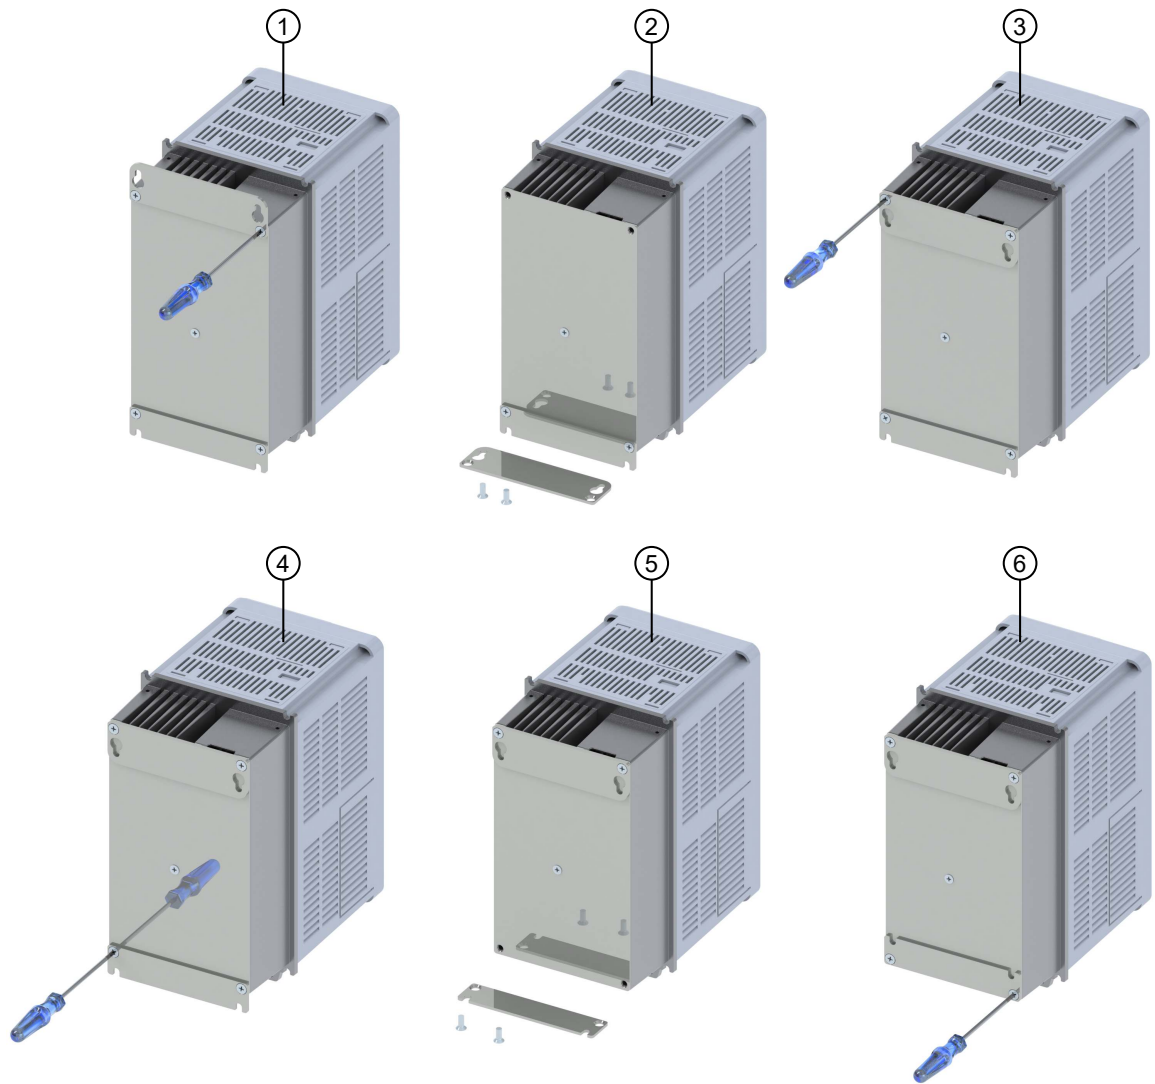

Figure 3.4: Repositioning of the mounting brackets
- The mounting brackets must be removed and repositioned as shown in Figure 3.4.